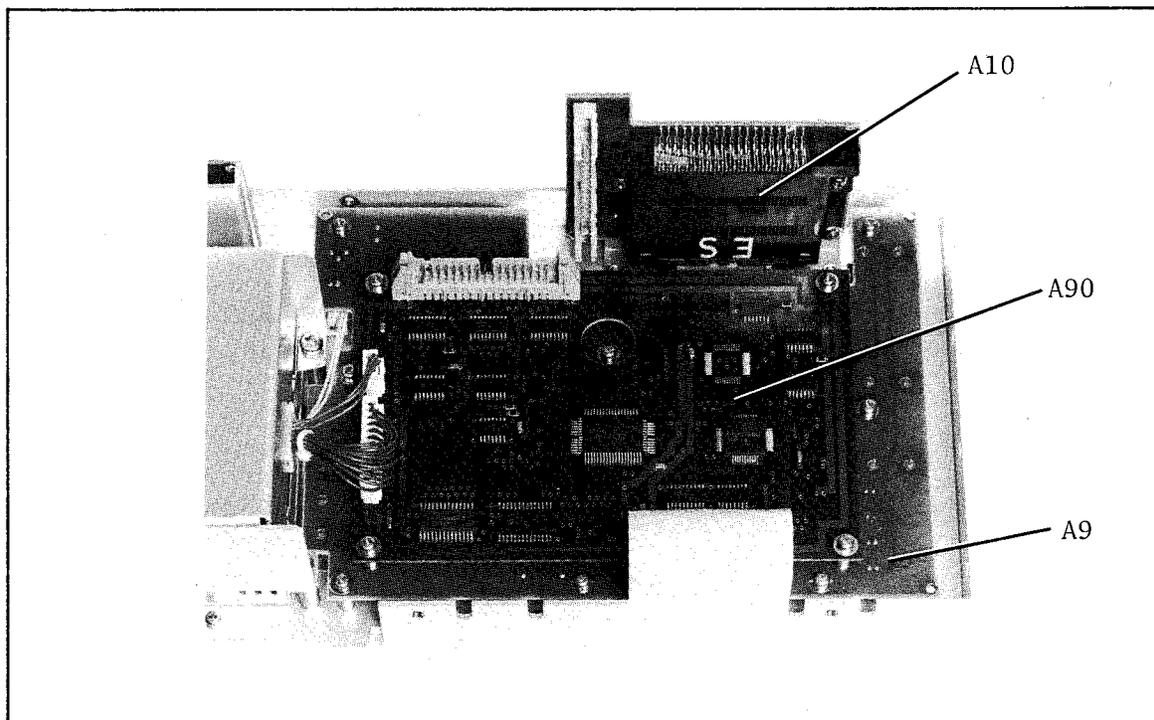

Figure 4-4. A9, A90, and A10 Assembly Removal
2. Disconnect the flatcable assembly that is connected to the motherboard from the A90 assembly as shown in Figure 4-4.
1. Disconnect the flatcable assembly that is connected to the motherboard from the A10 assembly as shown in Figure 4-4.